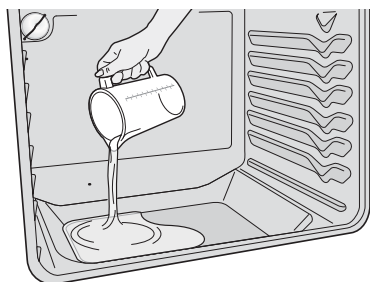

Figure 15: Pour water onto the oven bottom
3. Pour 8 oz (235 ml) of distilled or filtered water onto the oven bottom (See Figure 15). Close the oven door.